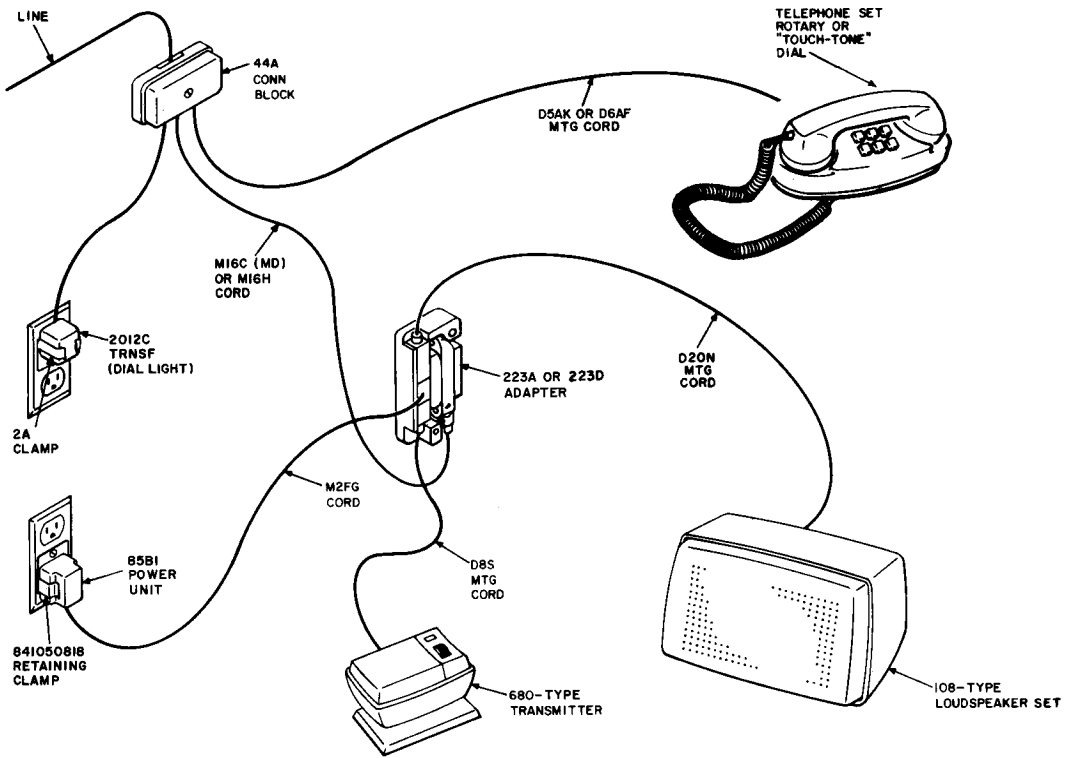

Fig. 1—Typical Grandfathered 4A Speakerphone System Arrangement, 702B (MD) and 2702B (MD) Telephone Set Using 223A (MD) or 223D Adapter
2.04 Power shall be supplied by connecting 85B1 power unit as shown in Fig. 1 through 5.